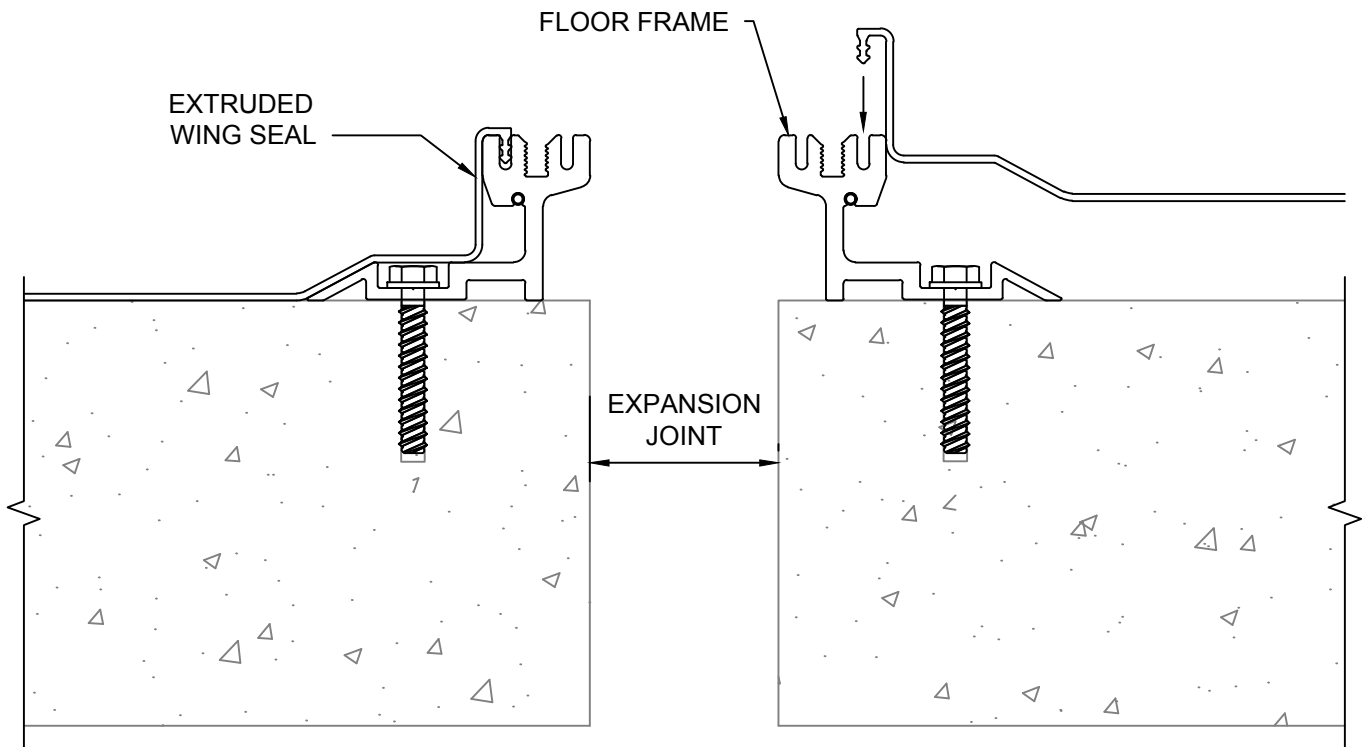

FIGURE 3.1
- 3.2) The Wing Seal has a "Push-In Arrow" extruded on one side. This Arrow is to be pushed into the slot (furthest away from the expansion joint) on the Floor Frame. (See Figure 3.1) If needed water can be sprayed on the Push-In Arrow to ease installation.